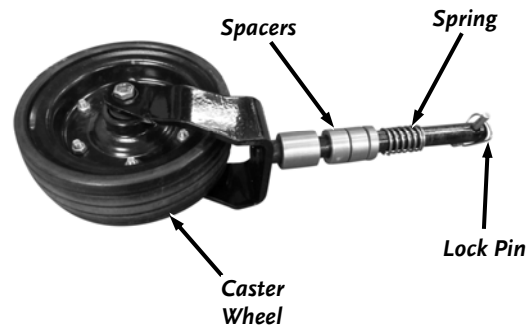

Figure 14
11. Remove the Lock Pin from one of the Caster Wheel Assemblies and remove the Spring and Spacers (**Figure 14**).